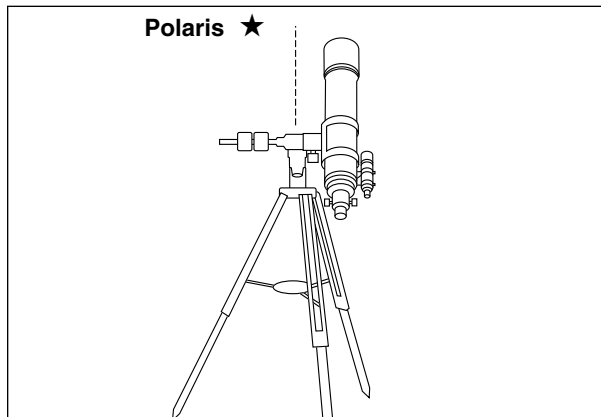

Fig. 10: Telescope aligned too far East.
- a. If the star drifts South, the telescope's polar axis is pointing too far East (Fig. 10).